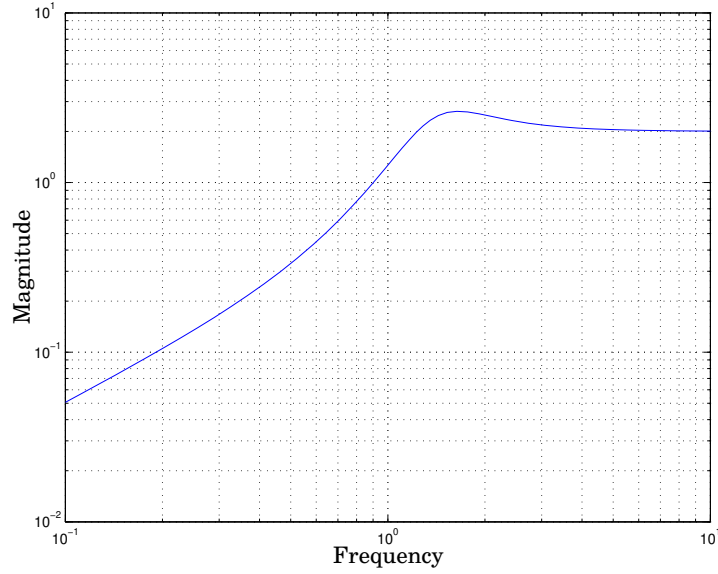

Figure 2.3 Bode magnitude diagram for $G_{vn}(s)$ in Problem 2.2.
- b.** Determine the largest gain $\|\Delta\|$ for which the closed-loop system is guaranteed to be stable. The Bode diagram of $G_{vn}(s)$ is provided in Figure 2.3.